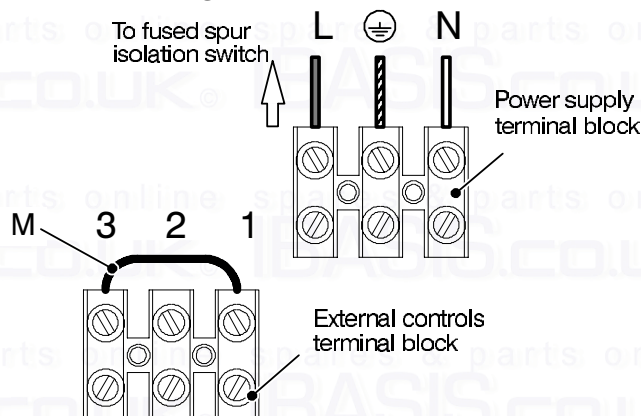

Fig. 6.13
- Connect the electrical supply flexible cord coming from the fused spur isolation switch to the power supply terminal block of the boiler (Fig. 6.13) keeping the same connections for the live (brown wire) and the neutral (blue wire). External 3 A fuse or fused plug with same current rating is recommended.
When connecting any type of external control, the link M in Fig. 6.13 must be removed.